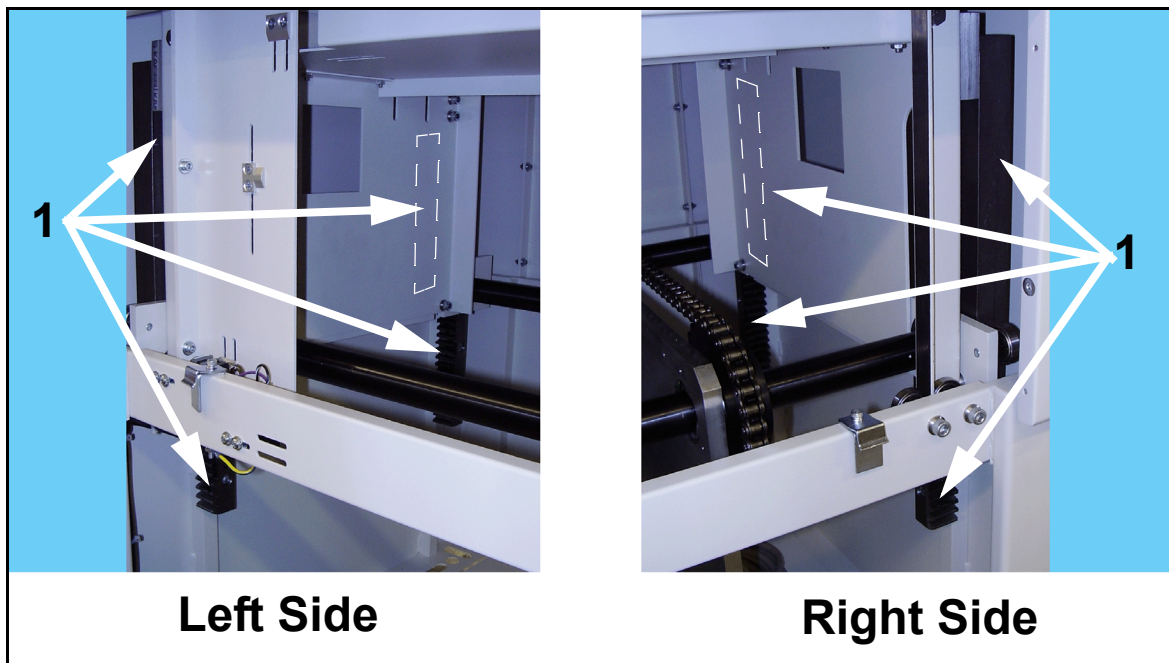

Figure 4-3. Rack Location
- 6 Using a brush, apply a medium film of Mobilith AW2 grease to the gear faces of each of the eight racks (1 in Figure 4-3).